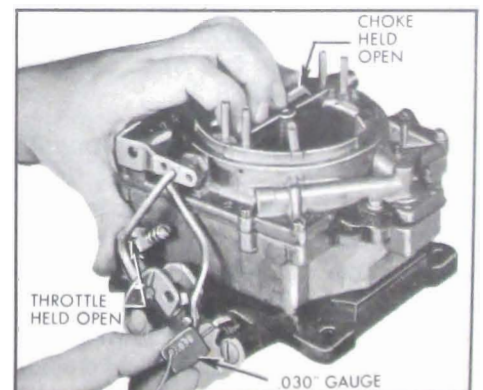

Figure 3-65—Checking Secondary Contour Adjustment
7. Secondary Contour Adjustment. Fully open choke valve so that fast idle cam falls to its lowest position. Then open throttle so that secondary lock-out tang follows contour portion of fast idle cam. With choke held wide open, check clearance between lock-out tang and contour portion of cam using .030" gauge. See Figure 3-65.